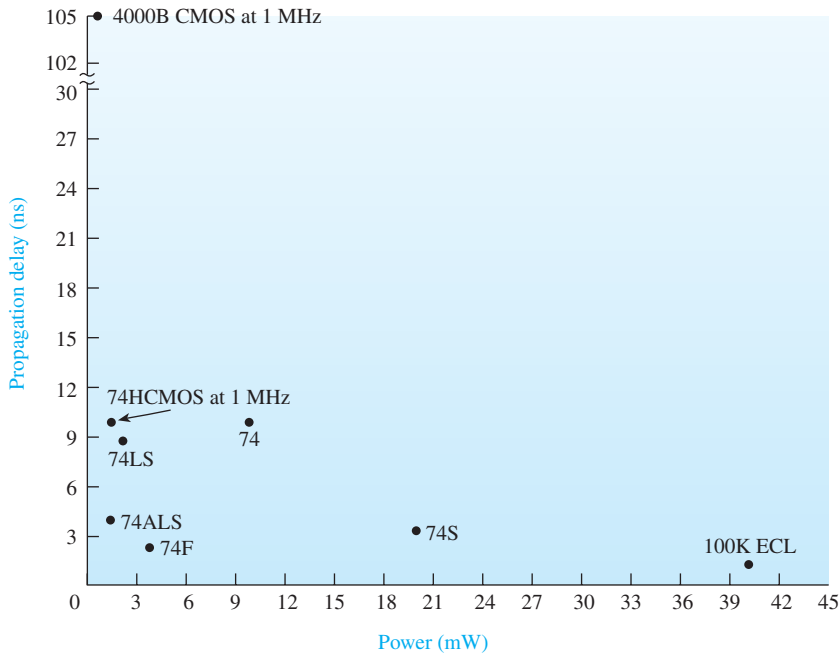

Figure 24 Graph of propagation delay versus power. (Used with permission from NXP Semiconductors.)
Another way to view the speed–power relationships is with the graph shown in Figure 24. From the graph, you can see the wide spectrum of choices available. 4000B CMOS and 100K ECL are at opposite ends of the spectrum of speed versus power, whereas 74ALS and 74F seem to offer the best of both worlds.
18. In the graph of Figure 24, the IC families plotted closest to the origin have the best speed–power products. True or false?